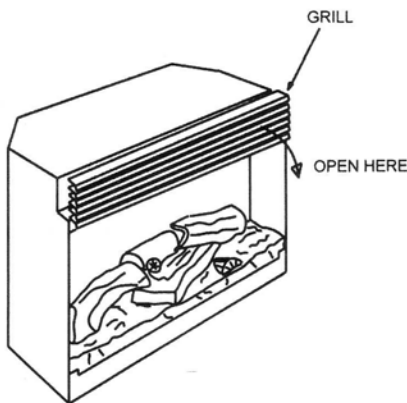

FIGURE 8
1. To access the controls, open the upper grill by pulling, near the top, forward and down. (FIGURE 8)